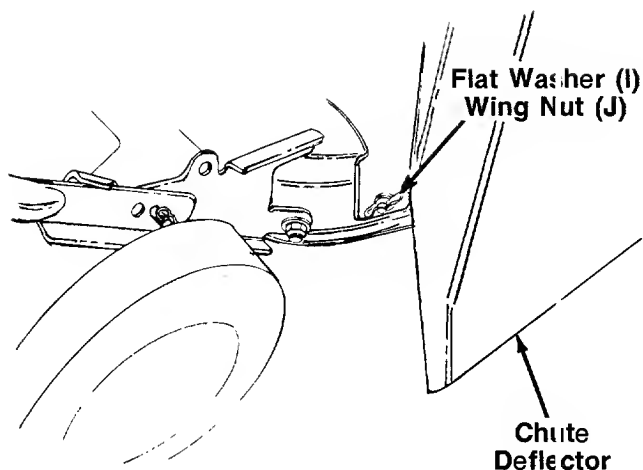

FIGURE 13.
3. Secure the back of the deflector in the same manner. See figure 13.